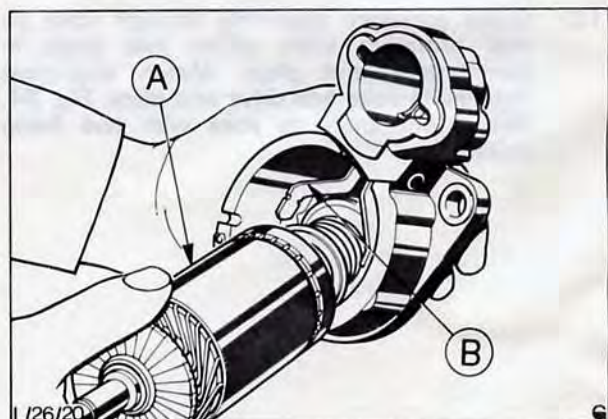

Fig. 37. Unhook armature from actuating arm as armature is guided clear of drive-end housing
5. Guide armature from drive-end housing simultaneously unhooking actuating arm from drive pinion assembly, Fig. 37.